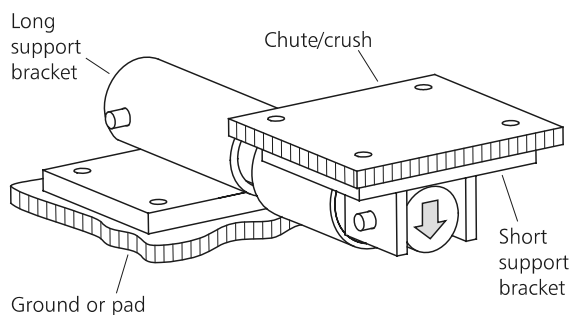

Figure 4 Short support bracket attached to the chute/crush, long support bracket mounted to the ground and loading direction arrow down.
- with the short support bracket attached to the chute/crush (see *Figure 4*).